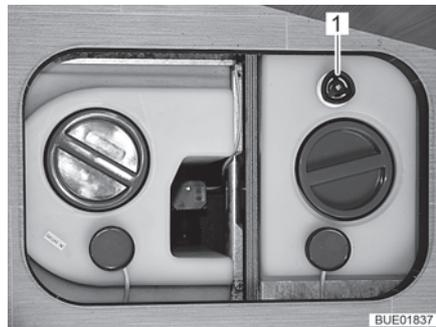

Fig. 192 Water tank with rotary handle
- Turn the rotary handle (Fig. 192,1) on the water tank in a clockwise direction as far as it will go.
- Turn the rotary handle (Fig. 192,1) on the water tank in an anticlockwise direction as far as it will go. The water drains away except for a residual amount of 20 l.